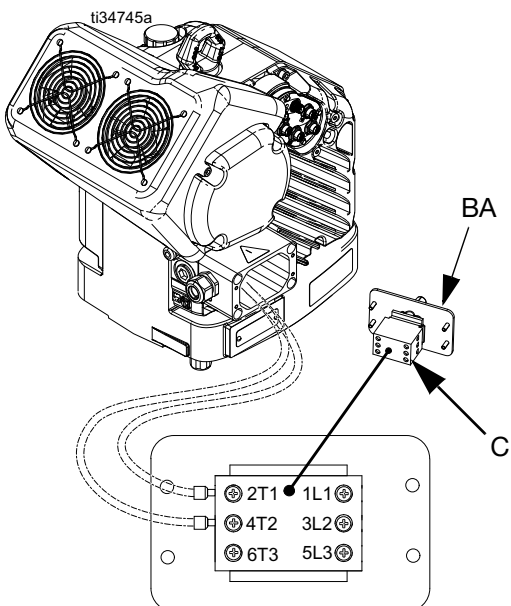

FIG. 8: Terminal Connections
NOTE: Inside the junction box, power wires are pre-installed to terminals 2T1 and 4T2 on the disconnect block. Refer to FIG. 8 for the terminal locations.
5. Refer to FIG. 8 and connect the wires from the power cord into terminals 1L1 and 2L2.